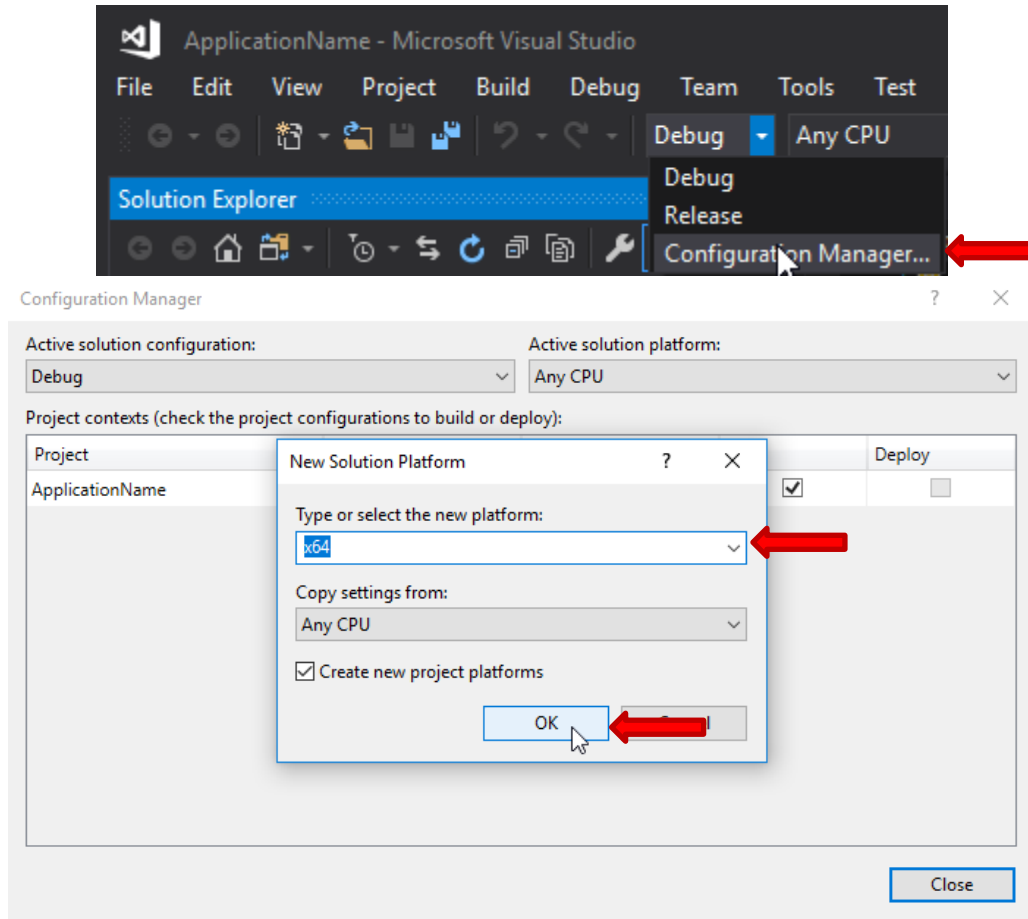

Figure 46 - VS2019 Choose Solution Platform
- 4) Open the Debug Configuration Manager, and change the Active Solution Platform to either x86, or x64 depending on the project requirements per Figure 46 - VS2019 Choose Solution Platform